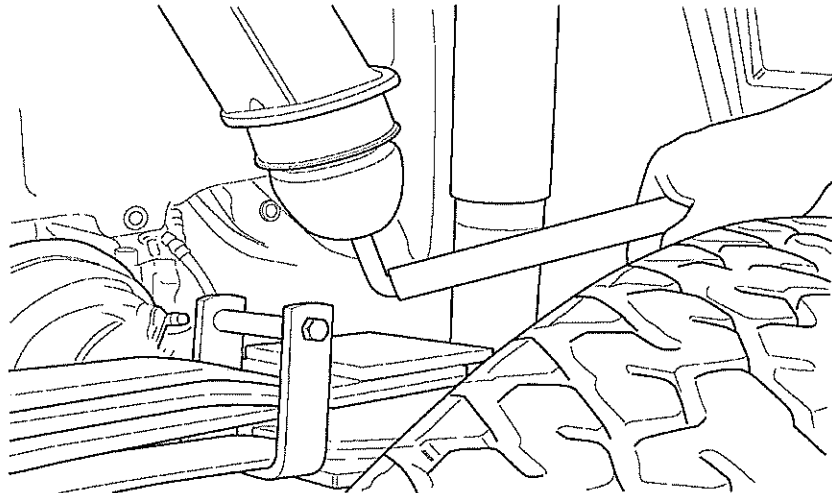

Fig 5 Rubber hollow suspension
- 6.3 Insert Allen key into rubber hollow suspension and remove with spring retainer (see Fig 5).